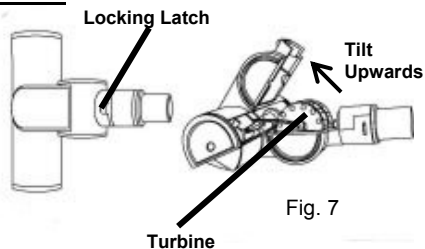

Fig. 7
- Keep Air Driven Turbo Brush turbine free of dirt and foreign matter. (See Fig. 7 below for cleaning instructions.)
- Slide locking latch forward then tilt the top housing of the brush upwards. The top housing is hinged and will tilt up approximately 45° only. (Fig. 7)